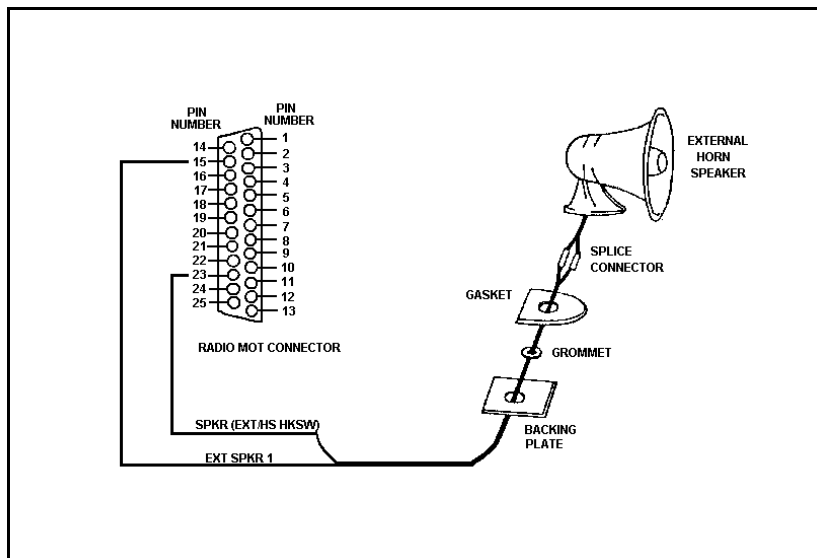

Figure 9 - Horn Speaker Mounting
1. Mount the speaker in the desired location and make the electrical connections indicated in Figure 9.